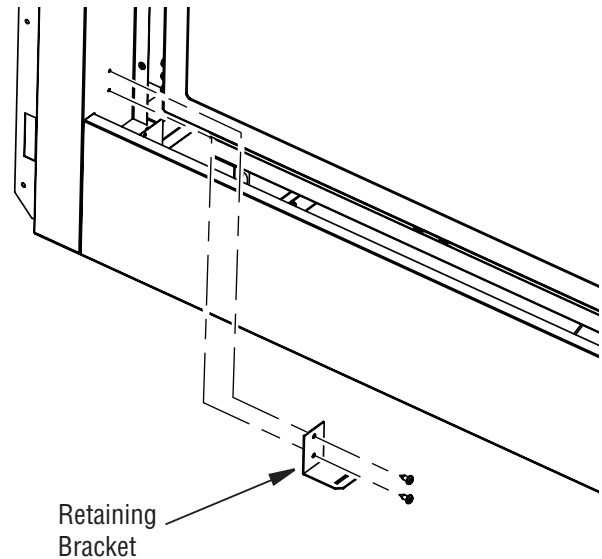

Figure 20 - Installing Access Door Retaining Brackets for See-Thru Applications
1. Screw access door retaining brackets into the inner side face using 2 screws on both the left and right side as shown in Figure 20.